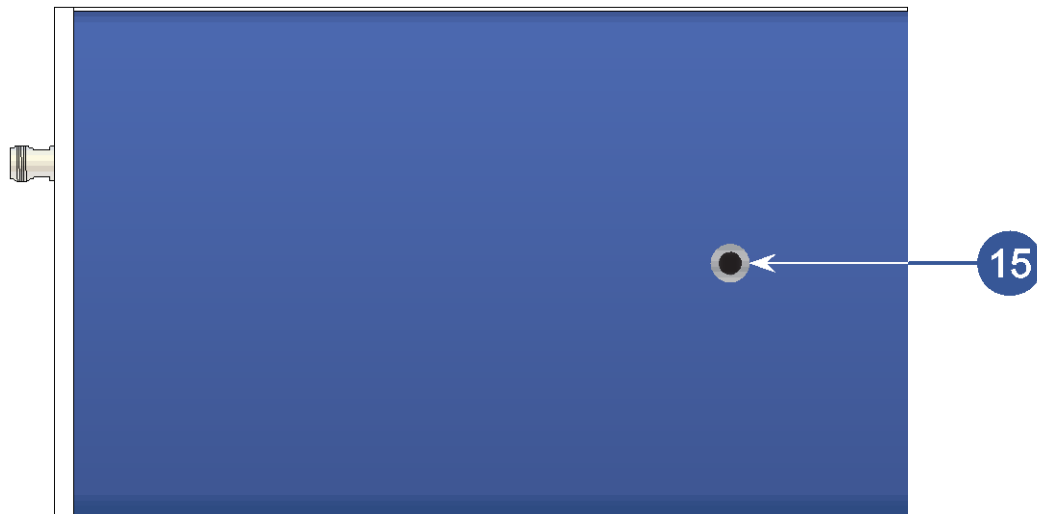

FIGURE 3 - AM-741R Connections/Controls/Indicators - Bottom Panel
- 1) REFERENCE MEASUREMENTS **(R)** - With the equipment set up as shown in Figure 3, measure and record the signal level (in dBμV) at several frequencies over the frequency range to be calibrated.